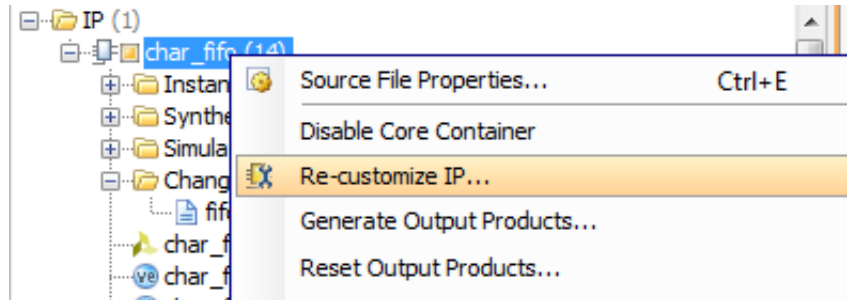

Figure 2-22: Re-customize IP Option
- In the **IP Sources** view, right-click the IP, and select **Re-customize IP** from the menu as shown in Figure 2-22, page 40.